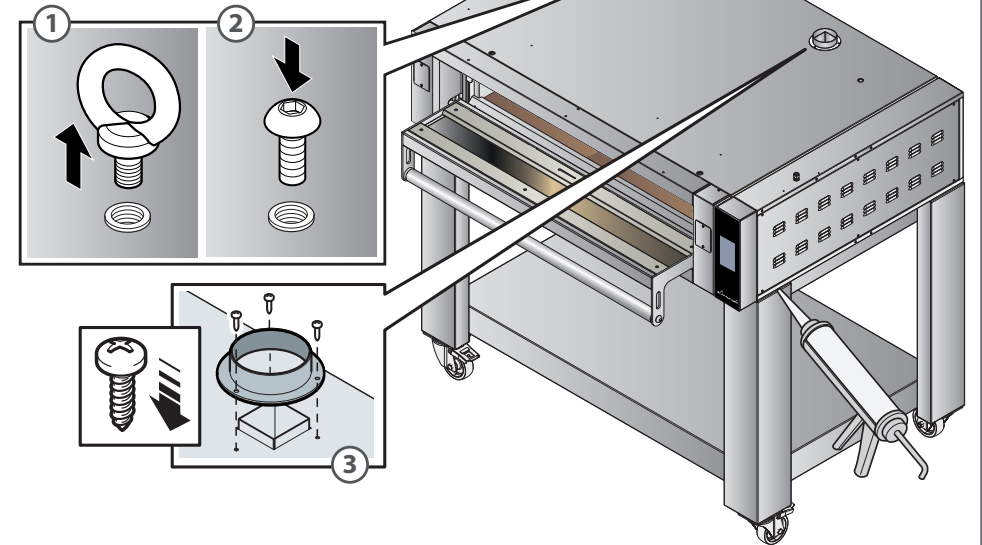

Fig.8.
► Fig.8.
- A** NO more ovens must be installed on top of it, follow the instructions in figure ► **Fig.8.**